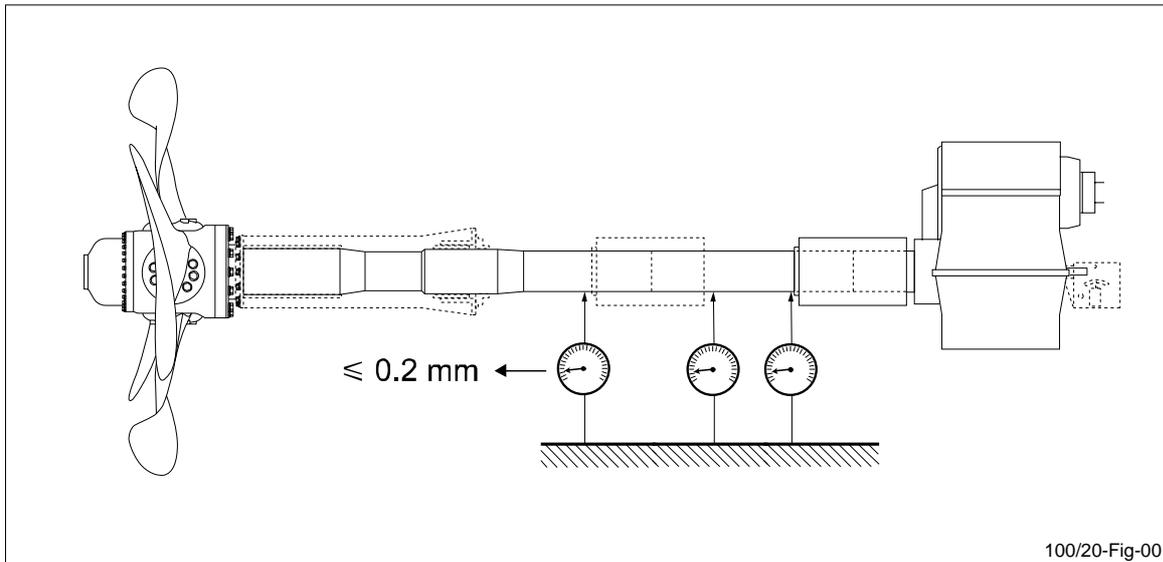

Figure 1 OD-box FA, mounted on the forward side of the gear-box.
**Note:** The values stated in figure 1 are only valid for the Rolls-Royce equipment, other parts on the shaft line may require other tolerances.
Inspect and record the maximum run out of the shaft, sleeve coupling, and the twin tube according to figure 1. The values given in figure 1 are valid for all sleeve couplings.
Note that the values stated in figure 1 is only valid for the Rolls-Royce equipment, other parts on the shaft line may require other tolerances.
The values, given in millimetres, in figure 1 are maximum values taken from a dial gauge reading during a 360° rotation of the shaft. It is necessary to keep within the stated values, because deviations will cause vibrations in the shaft line which will reduce the lifetime of seals and bearings in, for example, the gear box and the stern tube.